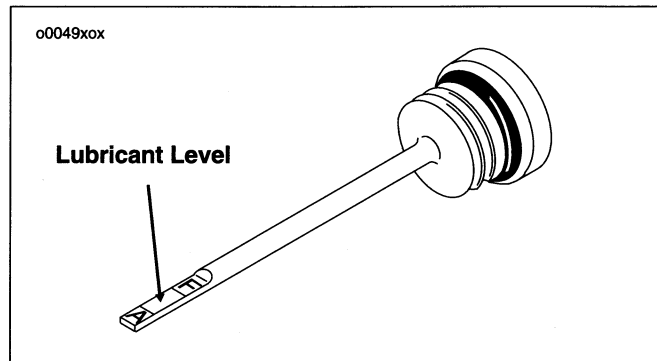

Figure 34. Transmission Lubricant Dipstick
See Figure 34. The transmission lubricant level should be checked monthly.
1. See Figure 34. Remove the threaded filler plug.